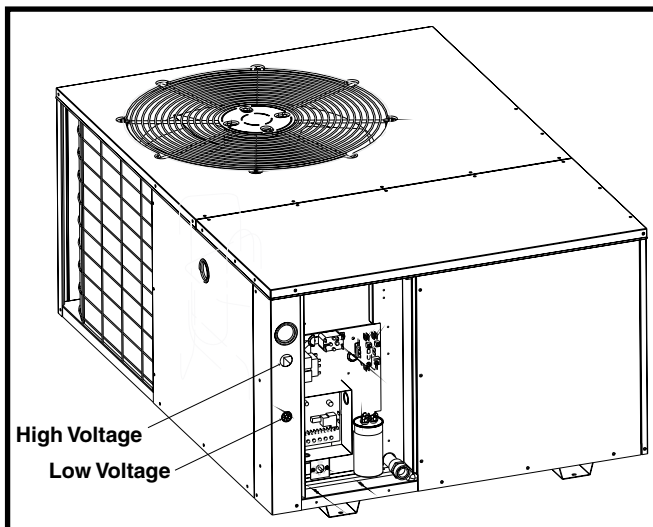

Figure 5. Power Entry
- Connect the line-voltage leads to the terminals on the contactor inside the control compartment. Extend leads through power wiring hole (Figure 5). Connect **L1 & L2** directly to the contactor.
1. Route 24V control wires through the sealing grommet (Figure 5 \(page 7\)) near the power entrance.